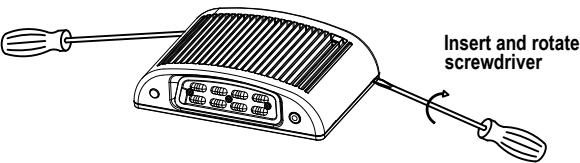

Fig 1
1. Use flat blade screwdriver insert the two slots and make rotation then remove front cover from back plate (see Fig 1).